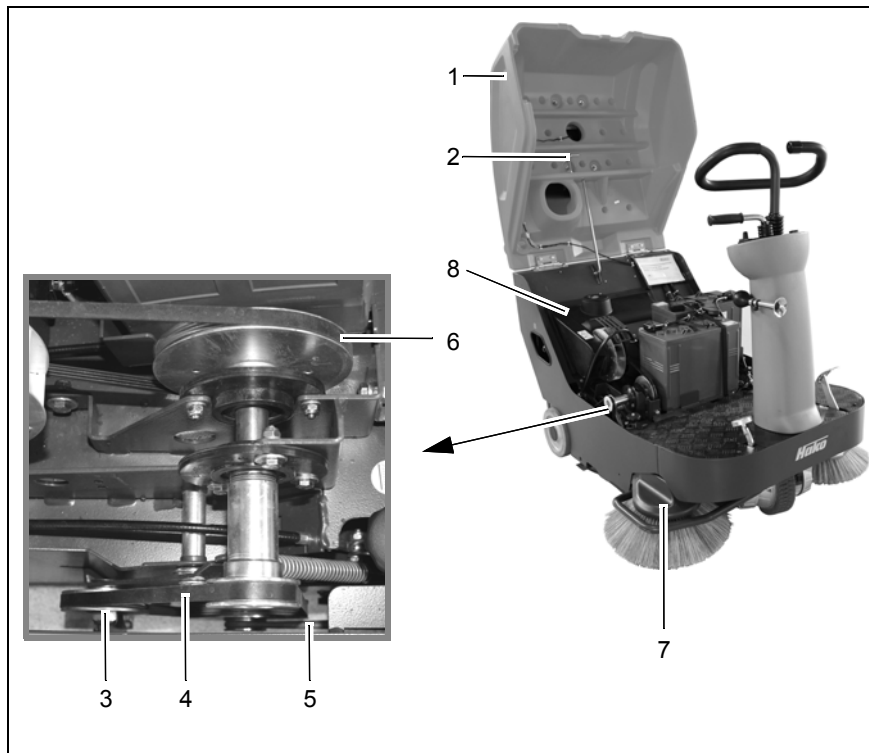

Fig.25
2. Open the seat console (Fig. 25/1) and secure with the safety support (Fig. 25/2).
3. Loosen the tension roller (Fig. 25/3) and change the drive belt (Fig. 25/4) for the cylindrical broom.
4. Tension the drive belt again using the tension roller (Fig. 25/3).
To access the drive belt of the side broom (Fig. 25/5), disassemble the cover (Fig. 25/7).
To access the drive belt of the suction turbine (Fig. 25/6), disassemble the panel (Fig. 25/8) of the panel air filter.